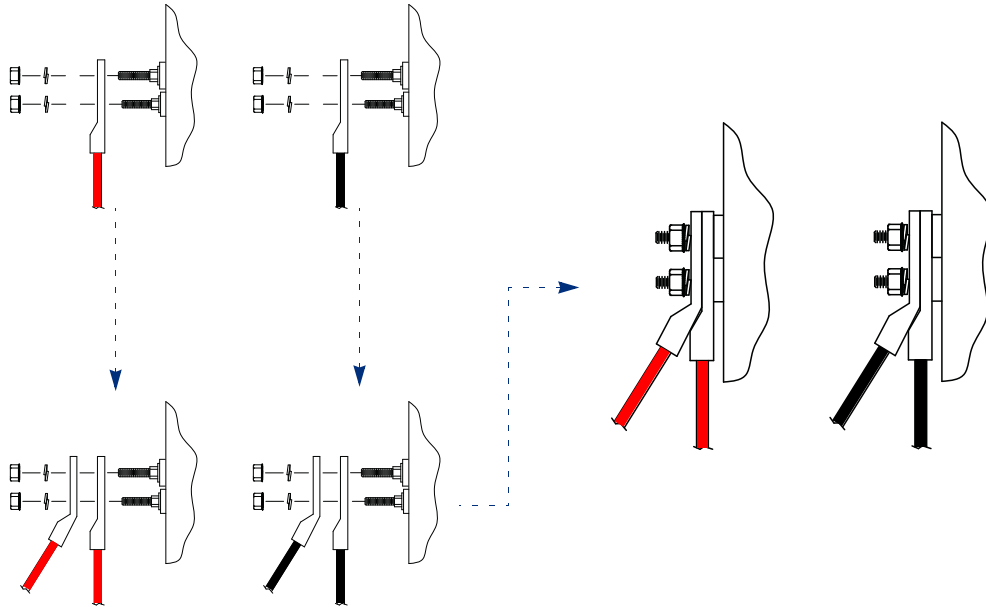

Figure 14. AC Power Supply, DC connector assembly - PEM Redundancy
6. Place the 2 sets of DC wires (flat-angled and 45°-angled) such that both sets of wires exit in the same downward direction as seen in Figure 14 below.